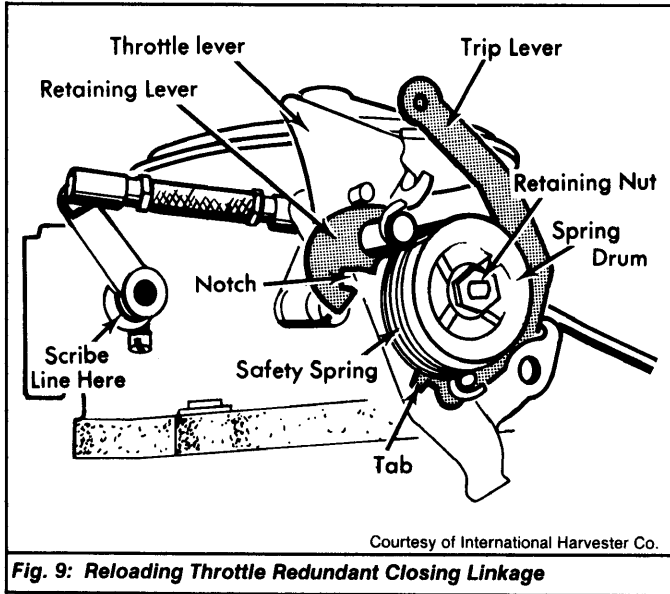

Fig. 9: Reloading Throttle Redundant Closing Linkage
3) If carburetor was equipped with redundant throttle return spring, install redundant throttle closing linkage retaining lever and trip lever onto throttle shaft. See Fig. 9.